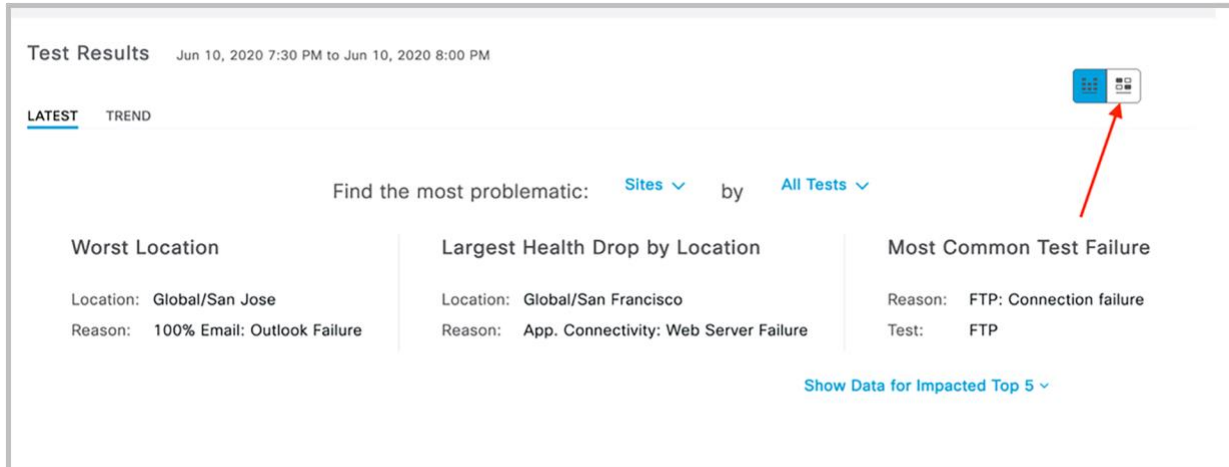

Figure 83.
- j. To replace the entire heatmap with a dedicated insights card view, click the rightmost button in the top right corner of the Test Results dashlet (Figure 83).